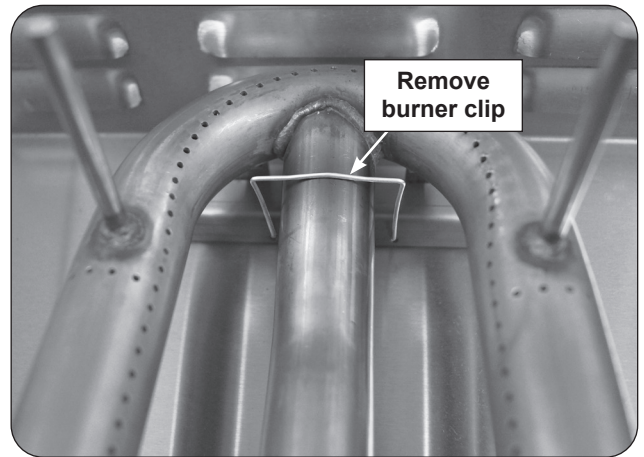

Fig. 41-1 Main burner removal
3. Locate the burner clip (located over the rear center tube of the burner) and slightly pinch and remove the clip from the burner support. See Fig. 41-1.